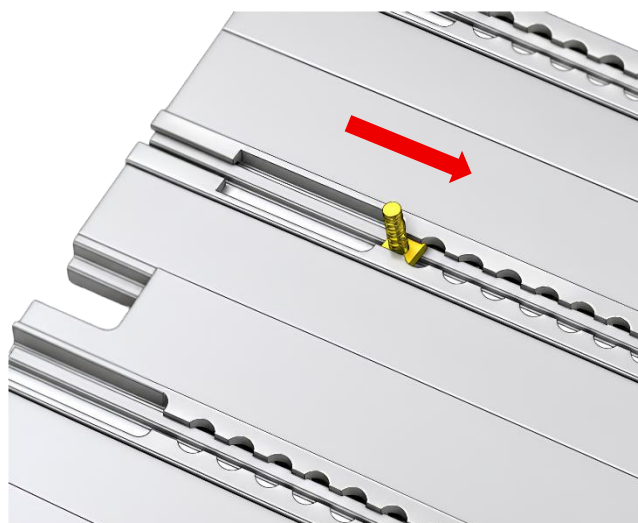

Figure 4
Step 4 Insert the M10 T-bolt into the floor panel through the manual foot slot and slide it to the required mounting position, as shown in **Figure 4**.